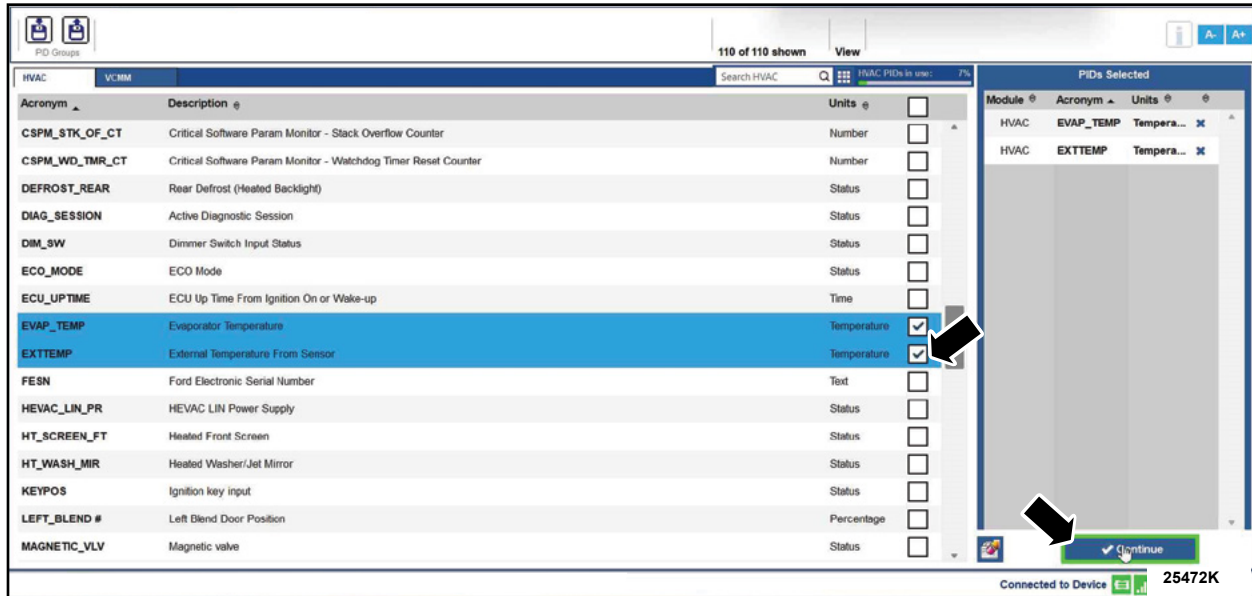

FIGURE 11
20. Scroll down, locate and select **EXTTEMP** and then **CONTINUE**. See Figure 11.